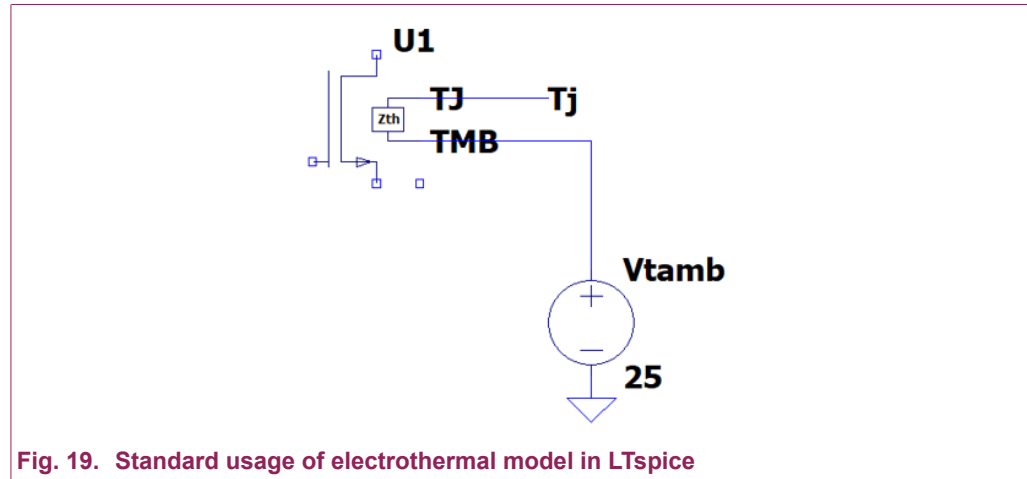

Fig. 19. Standard usage of electrothermal model in LTspice
1. The TMB node is connected to a constant voltage source with a value that represents constant ambient temperature. If you connect TMB directly to this source, we will assume that the heatsink is ideal and is kept at constant temperature, while the junction temperature of device could be different from ambient, see Fig. 19.